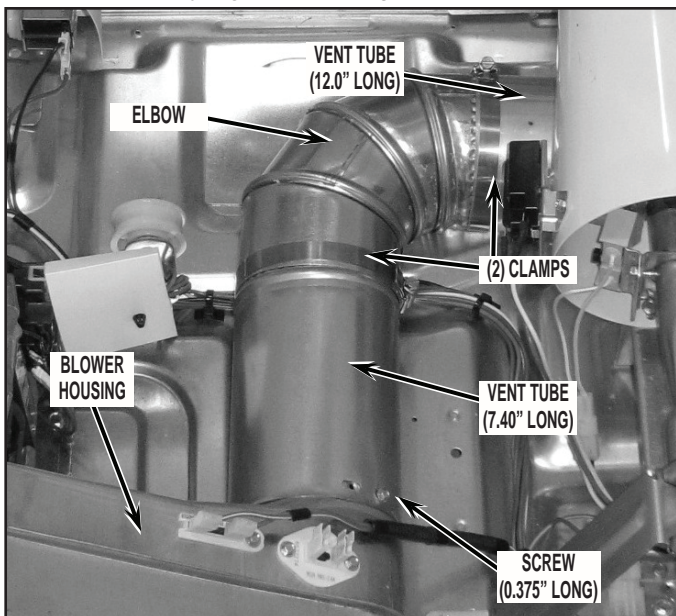
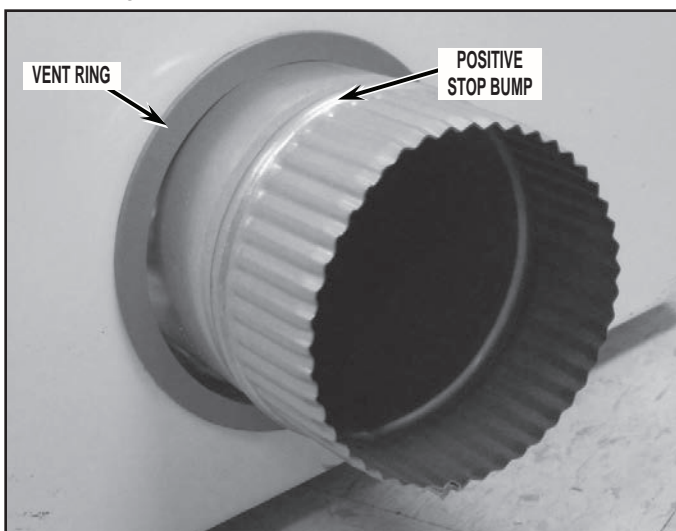

FIGURE 34
FIGURE 35
- Assemble the 305 mm (12.0") long vent tube and elbow from kit together using clamp included in kit. Tighten clamp to hold sub assembly together. See *Figure 34*.
- Feed this vent tube sub-assembly into the dryer and out the right side panel exhaust hole. Use clamp included with kit, slide it onto the elbow and press the elbow onto the 187 mm (7.40") vent tube. See *Figure 34*.
- Assure the positioning of the exhaust vent assembly and securely tighten both clamps. See *Figure 34*.
- From the outside of the dryer, install the vent ring included with kit by sliding over exhaust vent tube and snap into place. See *Figure 35*.
- Assure the positioning of the exhaust vent assembly, making sure the positive stop bump on the 305 mm (12.0") long vent tube is on the outside of the dryer. See *Figure 35*. Securely tighten both clamps. See *Figure 34*.